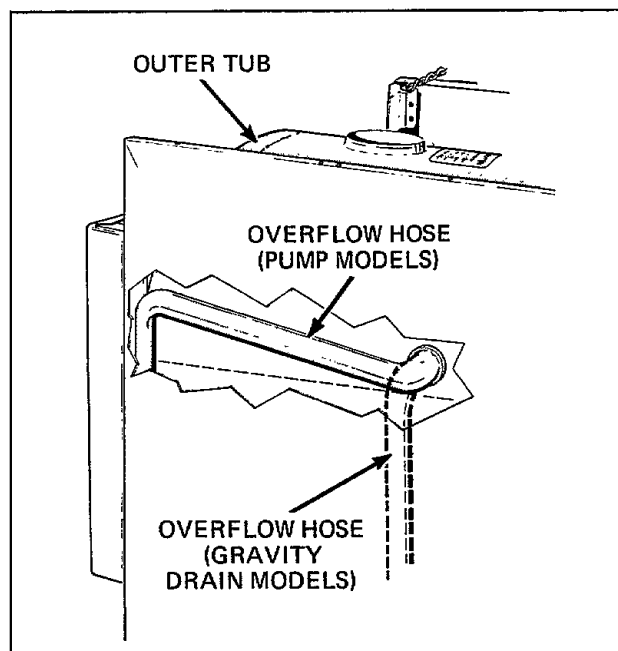

Figure 28
- f. Disconnect overflow hose from outer tub, *Figure 28*. Do not chip porcelain tub.
When re-installing overflow hose (pump models), run hose on incline toward front of washer. See *Figure 28*.